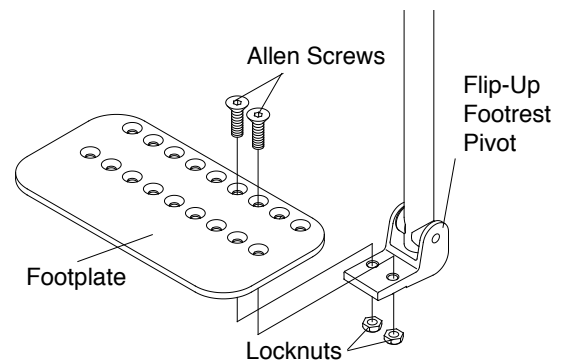

Figure 7
- Remove the flat head Allen Screws and locknuts that attach the footplate to the flip-up footrest pivot. See Figure 7.